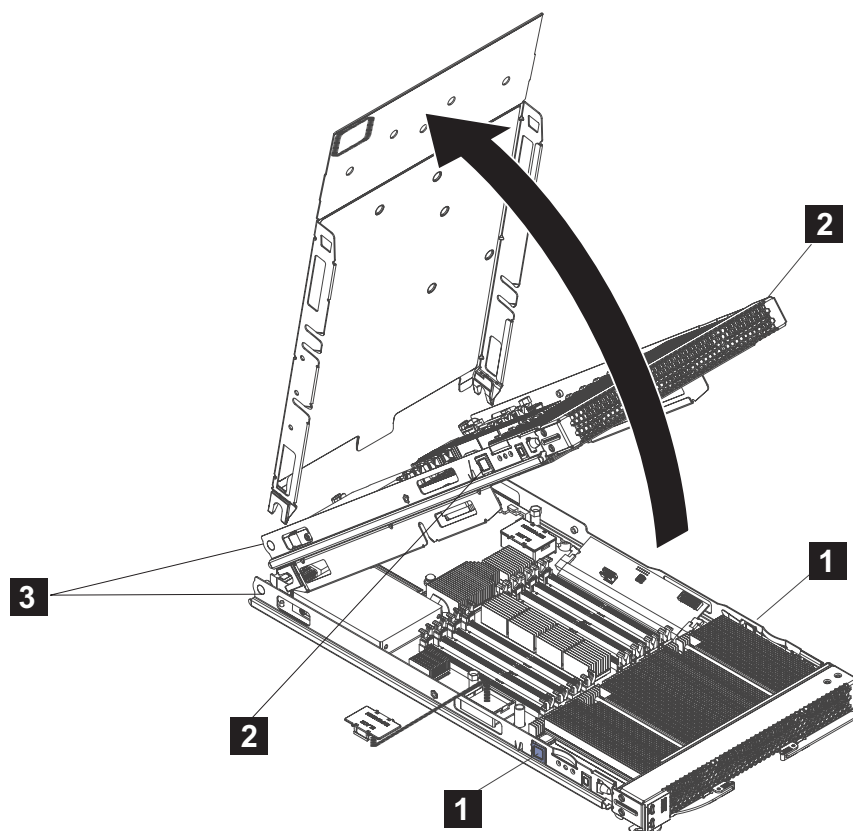

Figure 13. Removing the cover
4. Press the blade-cover release (as shown by **1** for the base unit and by **2** for the expansion unit in Figure 13) on each side of the blade server, rotate the cover on the cover pins (**3**) and lift the cover open.